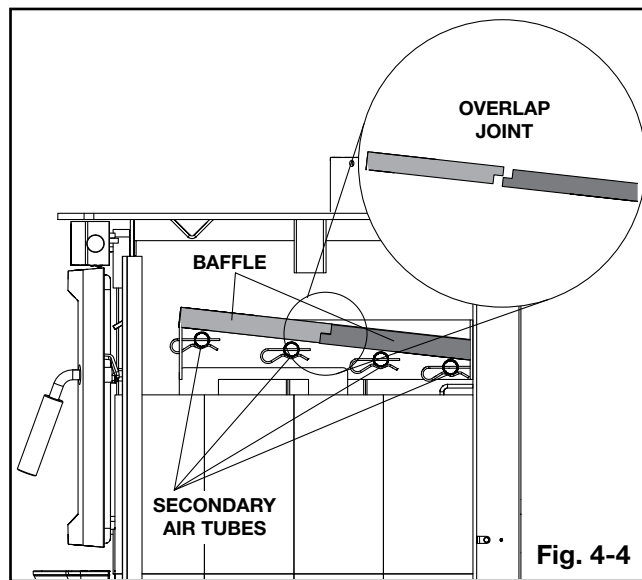

Fig. 4-4
- Carefully pivot fibre baffles (D) up onto the secondary air tubes as illustrated (**Fig. 4-4**). Ensure that the top baffles are pushed all the way to the rear of the firebox, leaving a minimum of a 1 inch gap along the front. This will allow the flue gases to escape the firebox. Ensure overlap joint is tight.
- Install the two (E) bricks along the front.